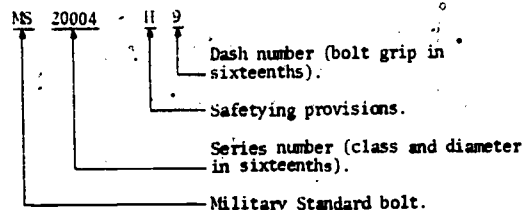

Figure 1-7. - MS bolt part number breakdown.
Military Standard (MS) is another series of bolts used in aircraft construction. In the part number shown in figure 1-7, the MS indicates that the bolt is a Military Standard bolt. The series number (20004) indicates the bolt class and diameter in sixteenths of an inch (internal wrenching, 1/4-inch diameter). The letter H before the dash number indicates that the bolt has a drilled head for safetying. The dash number (9) indicates the bolt grip in sixteenths of an inch.